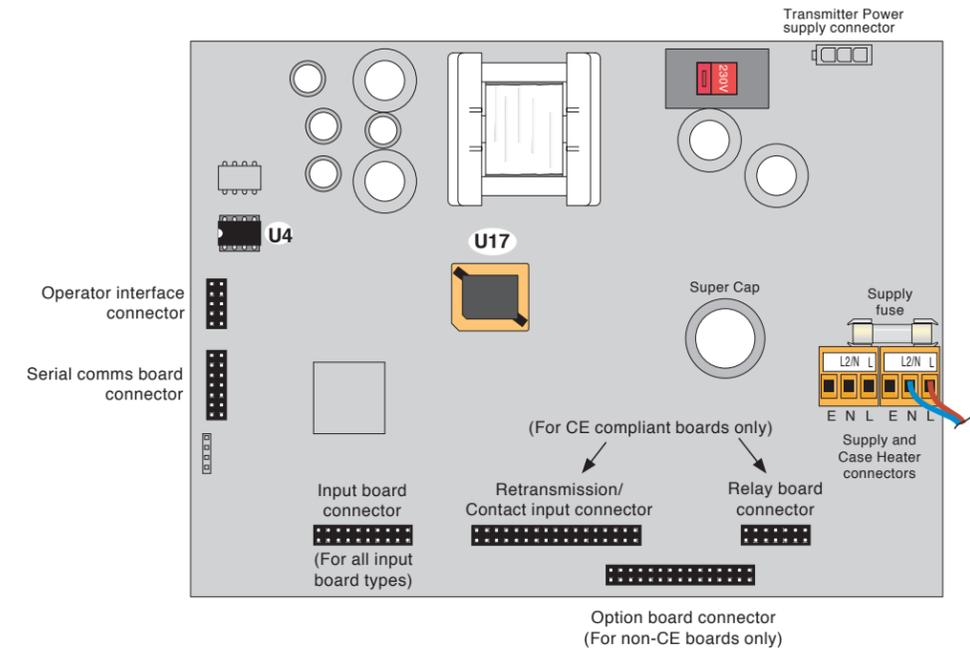

Figure 3.1a Main board PROM locations (Current version)
There are three versions of the main board, which, for the purposes of this document, will be called 'Original', 'Intermediate' and 'Current'. CE compliant recorders are fitted with the intermediate or current design. Non-compliant recorders may be found with any version. In all cases, the EEPROM location names are the same, but they are in different positions on the board, or are of a different physical shape. Figures 3.1a to 3.1c show the three versions of the main board.
3. Fit the replacement integrated circuit, ensuring that it is oriented correctly. Orientation is shown in figures 3.1a to 3.1c above.
1. If there is an integrated circuit (IC) in U4 position (figures 3.1a to 3.1 c), carefully remove it and place it in a static safe medium, ready for re-use after software upgrade is complete (step 5).
2. After taking into account the caution above (if relevant), insert the 8-pin Integrated Circuit into the U4 socket, ensuring that it is oriented correctly (figure 3.1a to 3.1c)